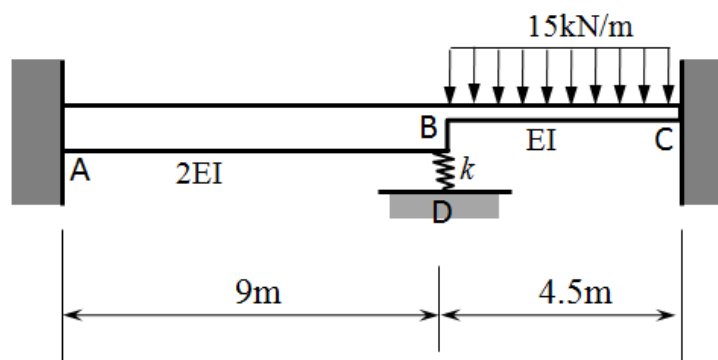

Figure 4/Rajah 4
- (c). **Figure 4** shows a step beam with moment of inertias of $2EI$ and EI for spans AB and BC , respectively. Both supports at A and C are fixed. A spring with spring constant 1000 kN/m is attached to the beam at joint B . A uniformly distributed load 15 kN/m acts along span BC . Use $EI=20 \times 10^3 \text{ kNm}^2$.